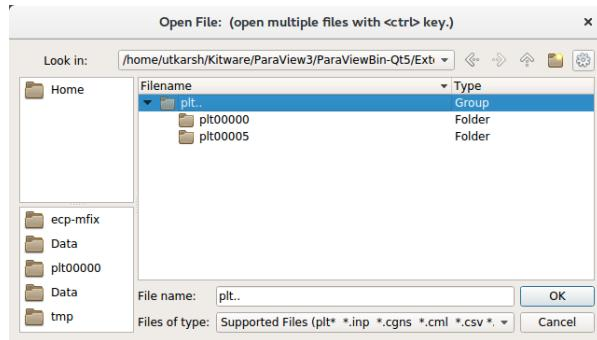

Fig. 15.2: File dialog in ParaView showing a group of plotfile directories selected
2. Navigate to your run directory, and select the fluid or particle plotfile. Note that you can either open single/multiple plotfile(s) at once by selecting them one by one or select an ensemble of file, labelled as `plt..` and indicated as a Group in the “Type” column of the file explorer (see Fig. 15.2). In the later case, Paraview will load the plotfiles as a time series. ParaView will ask you about the file type – choose “AMReX/BoxLib Grid Reader” or “AMReX/BoxLib Particles Reader”.
1. Run ParaView v5.7, and select then “File” → “Open”. You will see a combined “plt.” group. Click on “+” to expand the group, if you want inspect the files in the group. You can select an individual plotfile directory or select a group of directories to read them a time series, as shown in Fig. 15.2, and click OK. ParaView will ask you about the file type – choose “AMReX/BoxLib Particles Reader”.